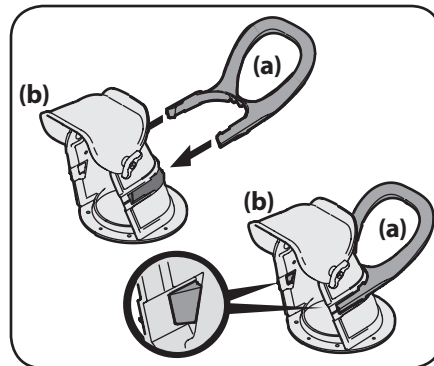

Figure 2-6
- Place the chute handle (a) onto the chute (b) as shown in Figure 2-6. Be certain that the handle is aligned in the channel on the chute and the tabs snap into place.